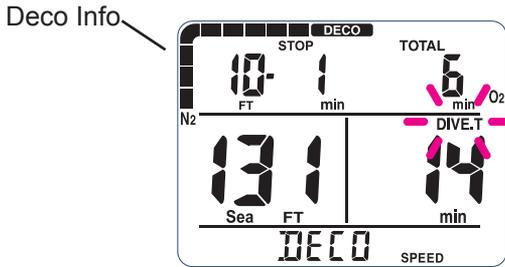

Figure 23
**Decompression mode** This is used for dives that last longer than the NDL's. The DECO icon warning will continue until the advised depths are reached. If you ignore the DECO warning and go straight to the surface for longer than 10 minutes, the display will freeze and all calculations will stop. The IQ-800 will switch automatically to TIME mode after 48 hours have elapsed. This information is recorded in the dive log. The IQ-800 can only switch to log, profile, or PC transfer mode while the calculations have stopped. (Fig. 23)